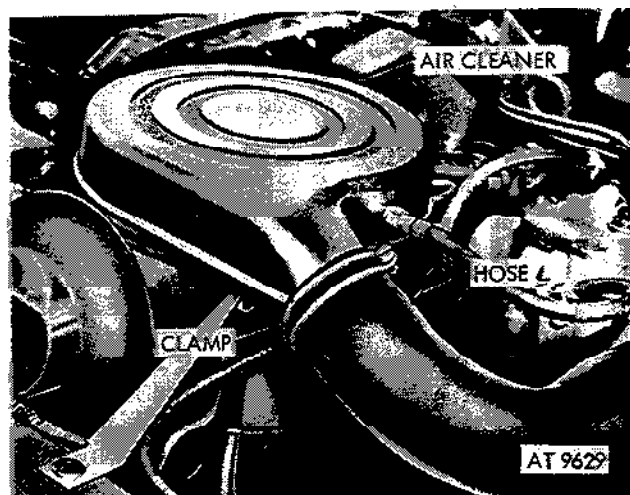

Figure 2-88. Remove hose from air cleaner.
(2) Loosen clamp screw and clamp at air intake hose. Remove hose from air cleaner (fig. 2-88).